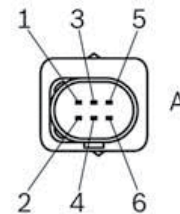

FIGURE 5 BOSCH UEGO LSU4.9 LAMBDA SENSOR HARNESS
- FIGURE 5 ALTRONIC UEGO LSU4.9 Lambda sensor HARNESS